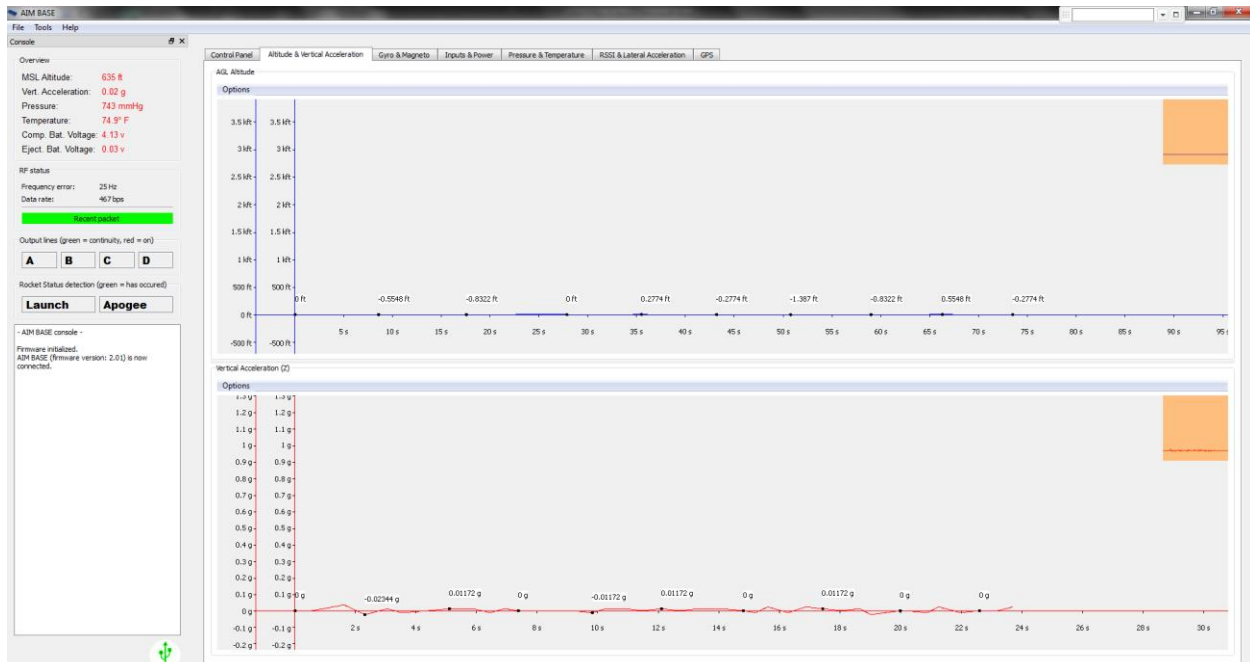

Figure 16: BASE Altitude & Vertical Acceleration
The Vertical Acceleration (Z) graph only depicts the Z axis acceleration (see Figure 16). Again, note that absolute acceleration data is reported for the Z axis which means that earth's gravity is